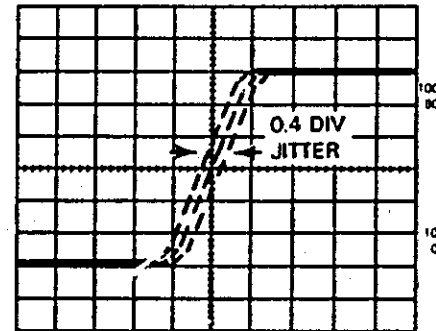

Figure 3-10. Pulse Jitter Measurement
f. Measure the horizontal displacement on the center horizontal graticule line as shown in figure 3-10. This displacement times the DLY'D TIME/DIV setting equals the pulse jitter in time.
Example: Assume the DLY'D TIME/DIV setting is 0.1 mSEC and the horizontal displacement is 0.4 DIV (figure 3-10).